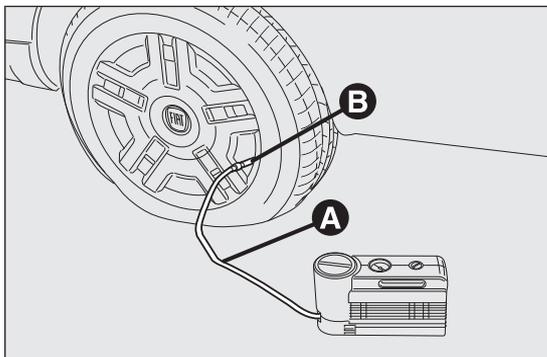

fig. 182
- Pull up the handbrake. Unscrew the tyre valve cap, take out the flexible filler pipe A fig. 182 and tighten the ring nut B on the tyre valve;